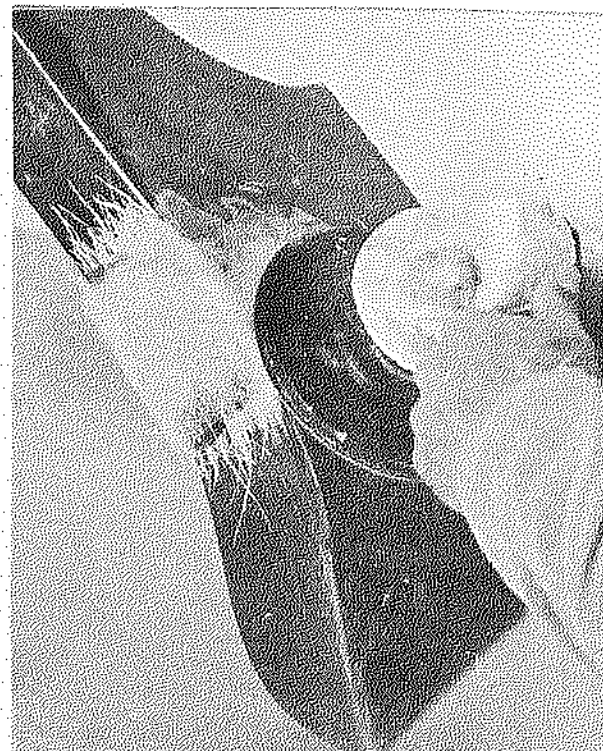

Fig. 3 - Sand Thoroughly
2. Sand thoroughly the area within the pencil lines leaving a feathered outer edge. As in Fig. 3.